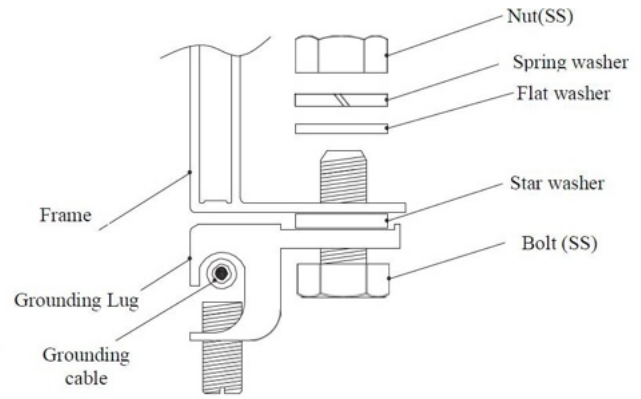

Figure 8
- The grounding bolts must be made of stainless steel and be used in the specified grounding holes. First, make the stainless steel bolt pass through the spring washer, cup washer, flat washer, and star washer, and then insert through the grounding hole, flat washer and spring washer on the frame. Finally, tighten with a nut. Caution: The upper limit temperature of the conductor is 85°C. As for the installation, refer to Figure 8.